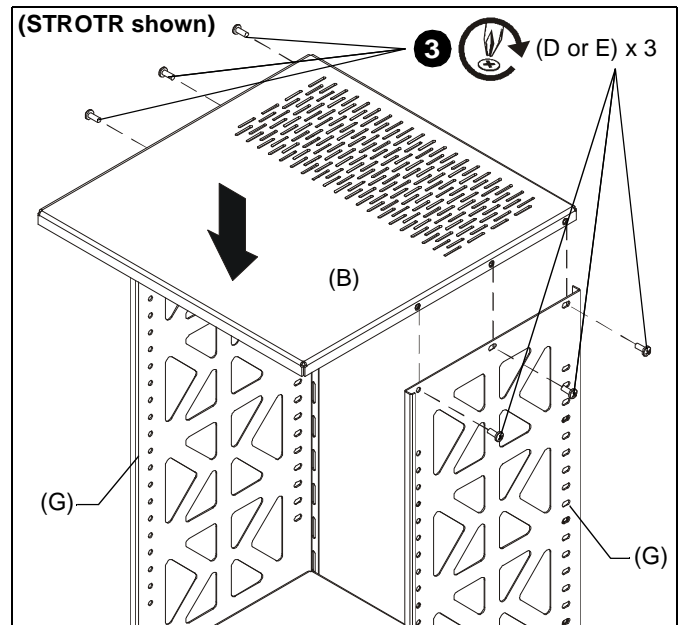

Figure 4
3. Loosely assemble top (B) to side mounting plates (G) using three fasteners (D - for WROTR; E - for STROTR) on each side. (See Figure 4)